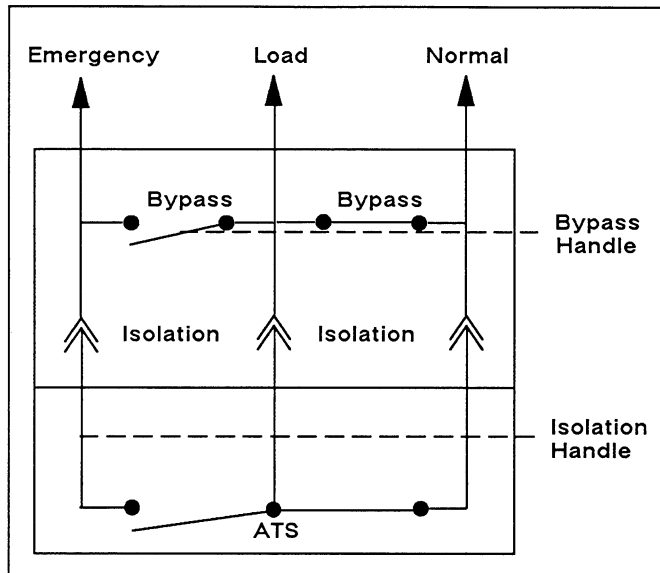

Figure 3. Bypass Position (Connected to Normal).
2. Bypass the Automatic Transfer Switch. See Figure 3.